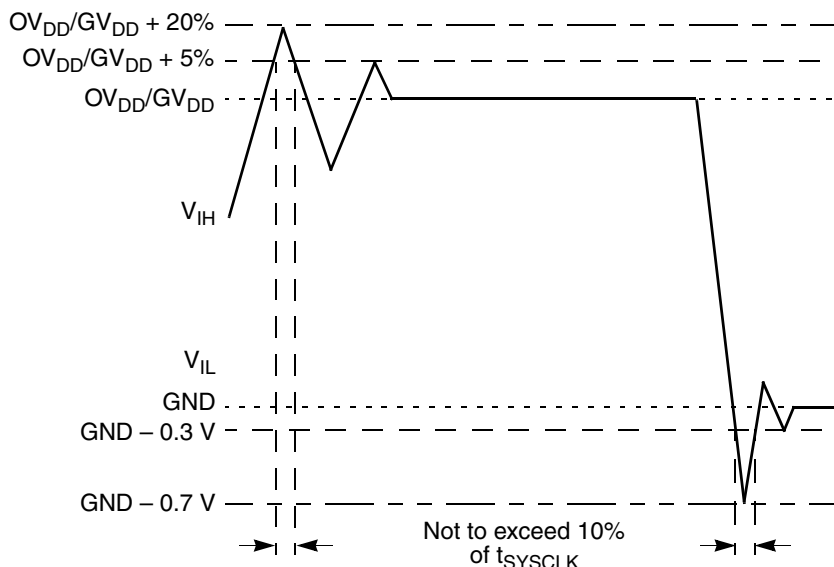

Figure 2. Overshoot/Undershoot Voltage
10. V_{in} may overshoot/undershoot to a voltage and for a maximum duration as shown in Figure 2.
Figure 2 shows the undershoot and overshoot voltage on the MPC7457.